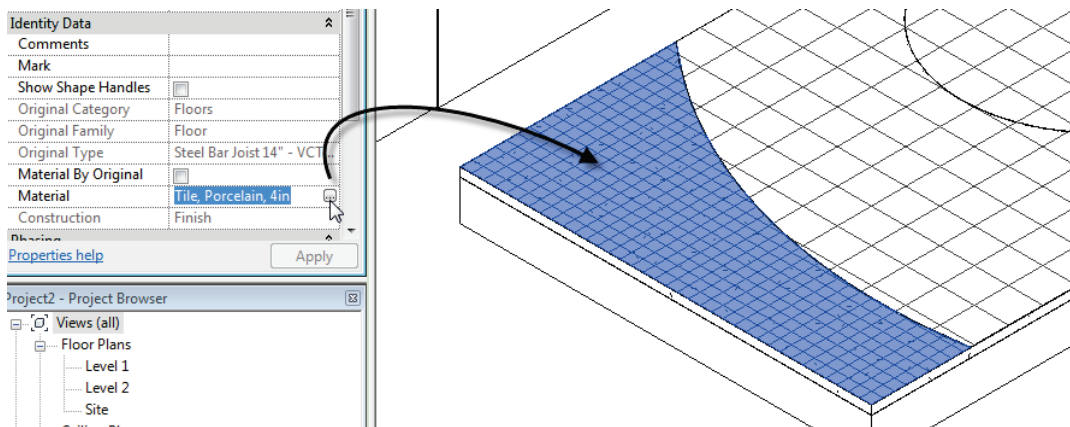

Figure 9
- This will enable the Material setting. Click the Browse icon and choose a new Material (see Figure 9).